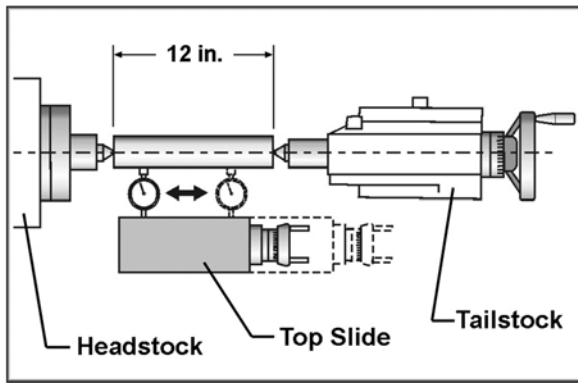

Figure 35 – Tailstock/Headstock alignment
1. Fit a 12" ground, center-drilled, steel bar between centers of headstock and tailstock (Figure 35).